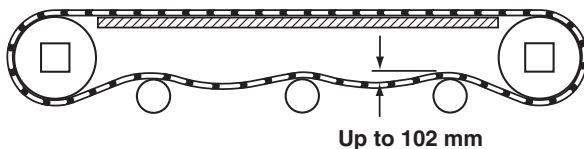

Figure 24
1. Check belt sag by measuring from the top of the return (Figure 24). Belt sag should not exceed 102 mm. Follow steps 7 – 9 in the “Belt Installation” section on page 7 to remove slack from the belt.